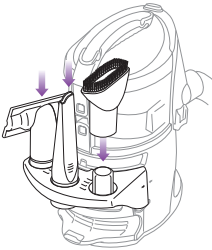

Fig. 4
- 3 Insert the crevice tool, dusting brush and upholstery brush into the openings on the tool caddy. (**fig. 4**)